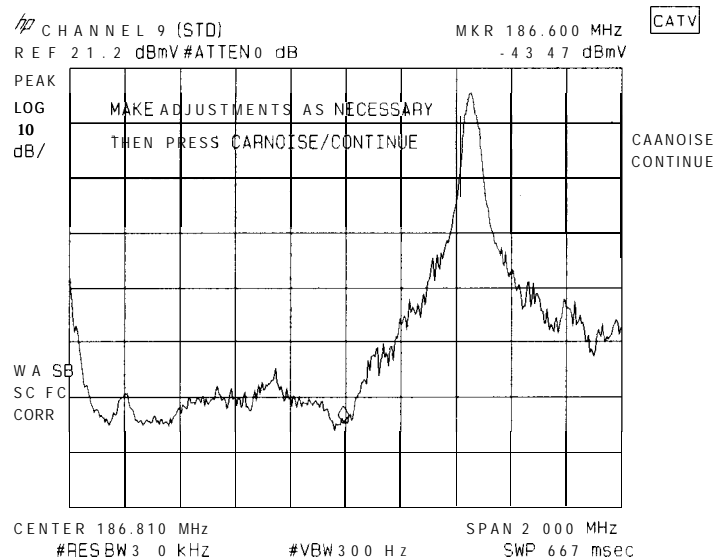

Figure 2-6.
2. The prompt MAKE ADJUSTMENTS AS NECESSARY appears as shown in Figure 2-6. A reference noise level appears on the screen. Three options follow for proceeding with the test: